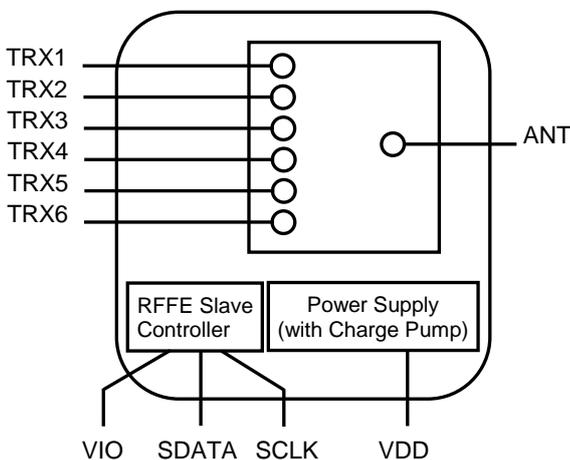

Figure 1. RFASWH526BTF03 Block Diagram
- The functional block diagram is shown in Figure 1. The pin assignment and package are shown in Figure 2. Signal pin assignments and functional pin descriptions are provided in Table 1.